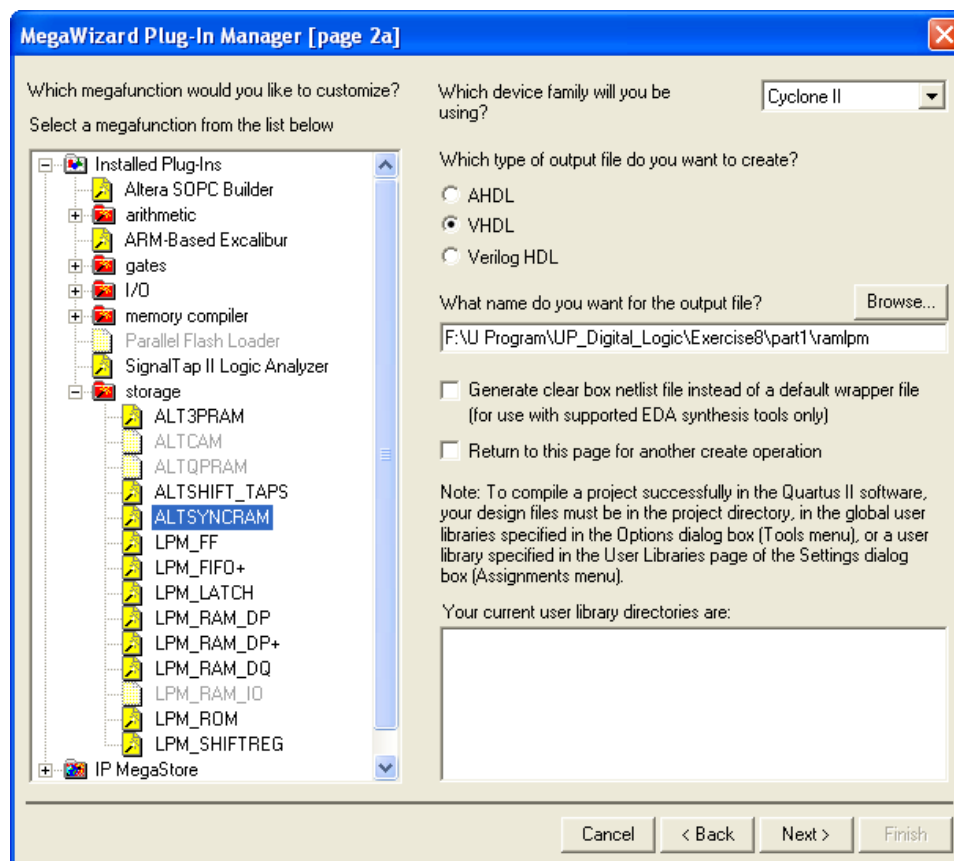
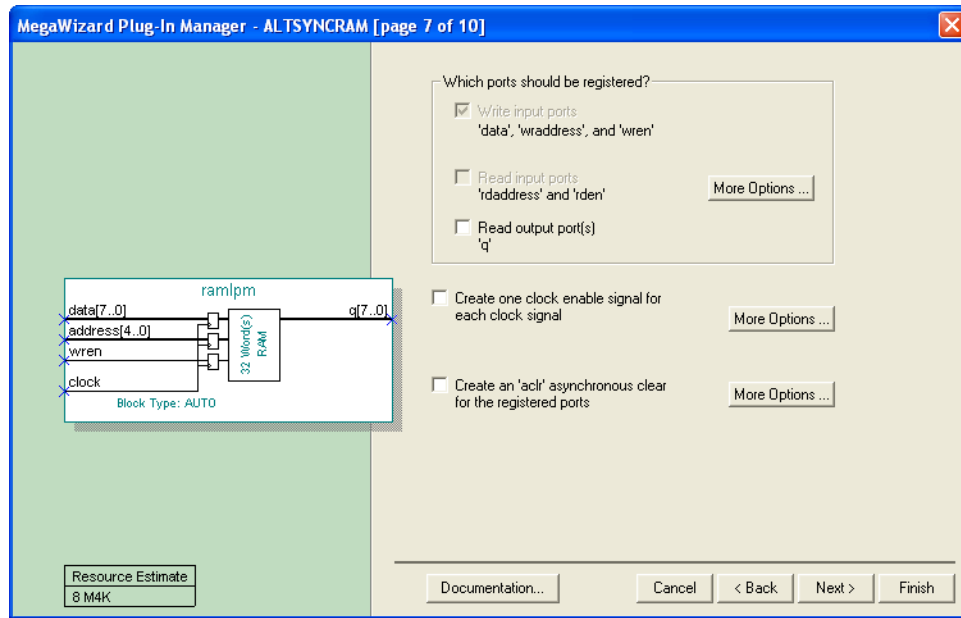

Figure 2. Choosing the *altsyncram* LPM.
Figure 3. Configuring input and output ports on the *altsyncram* LPM.
2. You can learn how the MegaWizard Plug-in Manager is used to generate a desired LPM module by reading the tutorial *Using Library Modules in VHDL Designs*. This tutorial is provided in the University Program section of Altera's web site. In the first screen of the MegaWizard Plug-in Manager choose the *altsyncram* LPM, which is found under the **storage** category. As indicated in Figure 2, select VHDL HDL as the type of output file to create, and give the file the name *ramlpm.vhd*. On the next page of the Wizard specify a memory size of 32 eight-bit words, and select M4K as the type of RAM block. Advance to the subsequent page and accept the default settings to use a single clock for the RAM's registers, and then advance again to the page shown in Figure 3. On this page *deselect* the setting called **Read output port(s)** under the category **Which ports should be registered?**. This setting creates a RAM module that matches the structure in Figure 1b, with registered input ports and unregistered output ports. Accept defaults for the rest of the settings in the Wizard, and then instantiate in your top-level VHDL file the entity generated in *ramlpm.vhd*. Include appropriate input and output signals in your VHDL code for the memory ports given in Figure 1b.